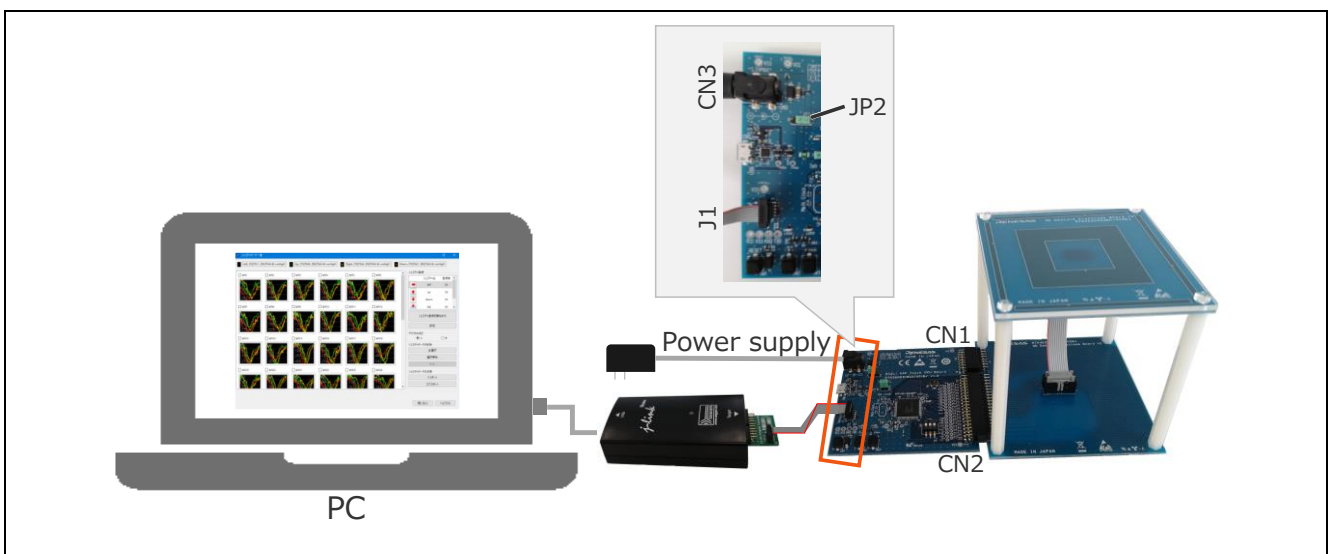

Figure 2-6 Connection Diagram when Power is supplied from AC Adapter
- Figure 2-6 shows the connection diagram when power is supplied from AC Adapter.